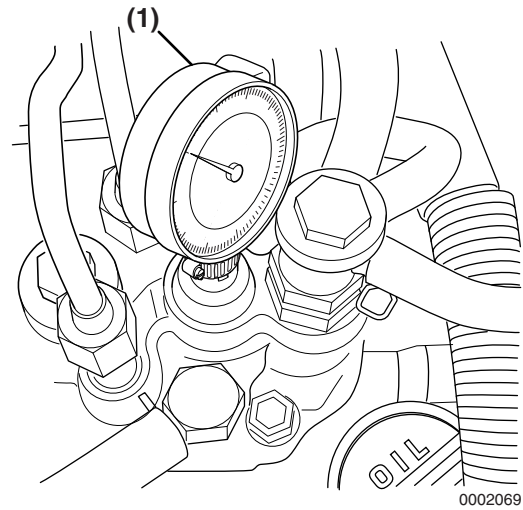

Figure 7-47
3. Note the reading on the dial indicator (**Figure 7-47, (1)**). If the reading is less than 2.5 mm (0.098 in.), the fuel injection timing is “retarded.” If the dial indicator reading is greater than 2.5 mm (0.098 in.), the fuel injection timing is “advanced.”